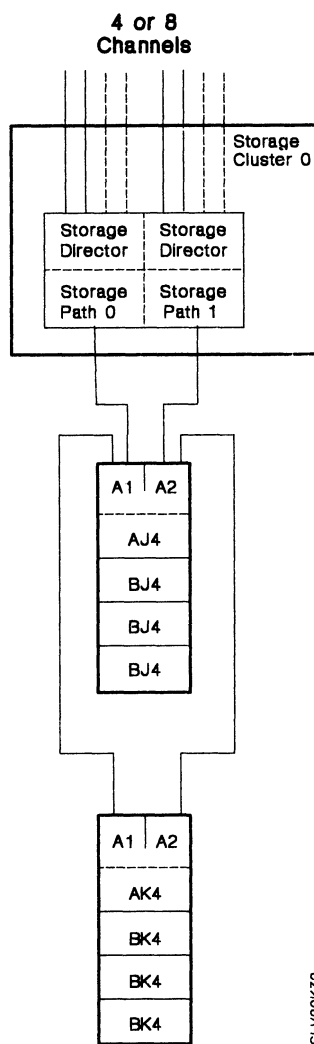

Figure 15. 3990 Model 1 in DLS Mode Attached to 2-Path DASD Strings
Figure 15 shows the major components of a 3990 Model 1.
1. A single 3990 Model 1 attaches to four channels. In Figure 15, the dotted lines show the extra channels added by the Four-Channel Switch, Additional feature.